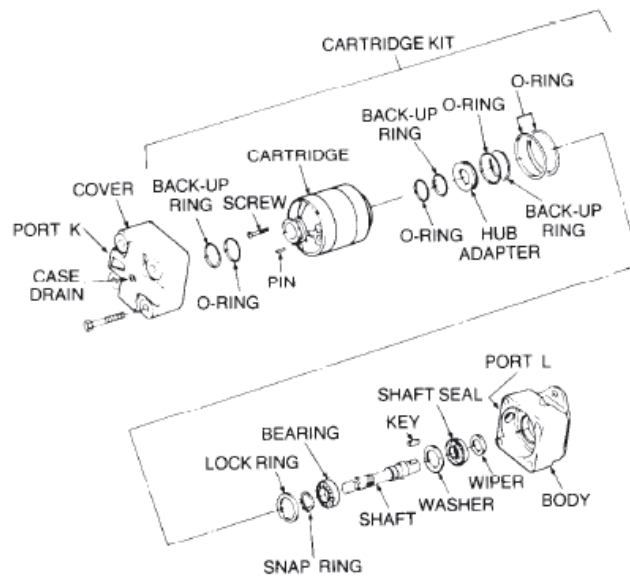

Figure 9 Hydraulic Motor – Exploded View
35. The water tanker hydraulic motor is connected for counterclockwise rotation (port K). The pressurized hydraulic fluid entering port K causes the rotor and vane assembly to rotate. This rotation is transferred to the motor output shaft via the spline connection between the rotor and the shaft. The hydraulic fluid that slips past the vanes in the motor lubricates the bearing and the bush within the motor before returning to the oil reservoir via port L or the unrestricted drain line (case drain) connected to the motor cover. An exploded view of the hydraulic motor is shown in Figure 9. The components designated as the Cartridge Kit are to be replaced as a complete item, when necessary.